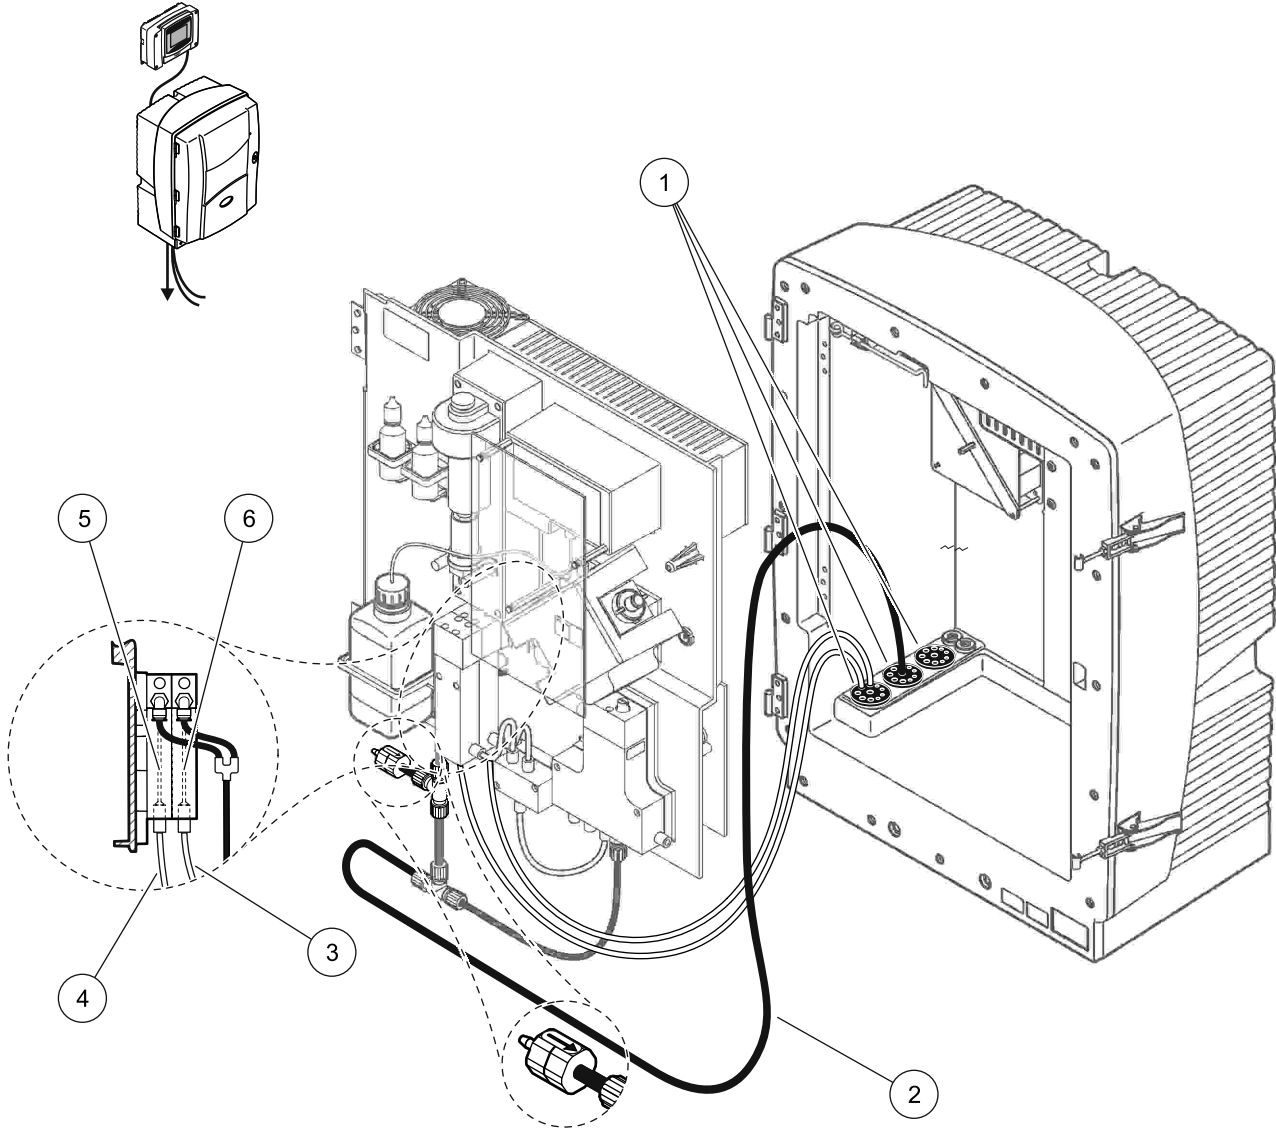

Figure 42 Option 11a setup
Refer to Figure 42 and the following instructions for Option 11a:
3. Feed the drain tube through the analyzer using Seal Plug #3 (Figure 42, item 2).